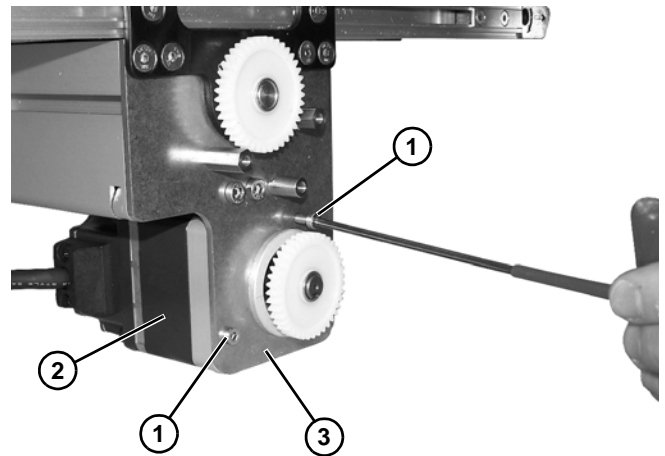

Figure 16
10. Remove two screws (Figure 16, item 1) from gearmotor.
11. Remove gearmotor (Figure 16, item 2) from mounting plate (Figure 16, item 3).